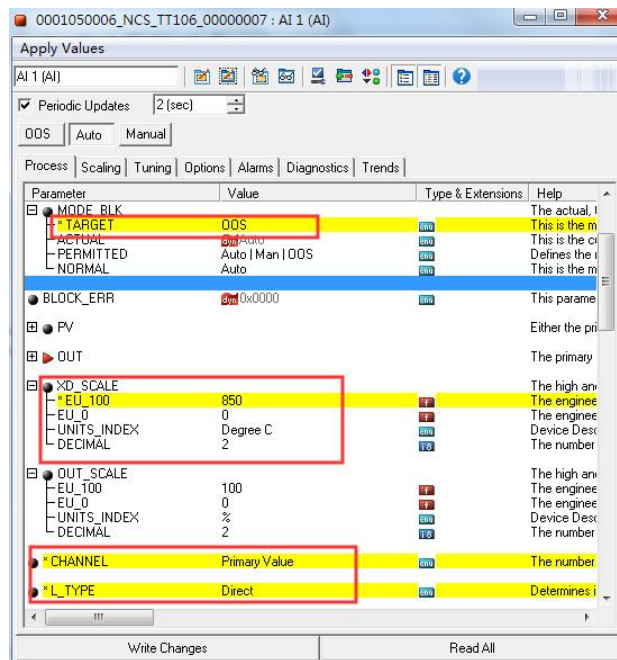

Figure 3.15 AI1 function block configuration interface
(3) After the configuration information is downloaded successfully, you need to configure the parameters in the AI function block. Common configuration parameters are CHANNEL, XD\_SCALE, OUT\_SCALE, and L\_TYPE. Let's take the AI1 function block as an example for configuration, open the AI1 function block, modify the TARGET in the MODE\_BLK parameter to OOS, modify the upper and lower limits and unit parameters of XD\_SCALE, modify CHANNEL to Primary Value, modify L\_TYPE to Direct, and click "Write Changes" The button finishes writing the modified parameters. As shown in Figure 3.15.